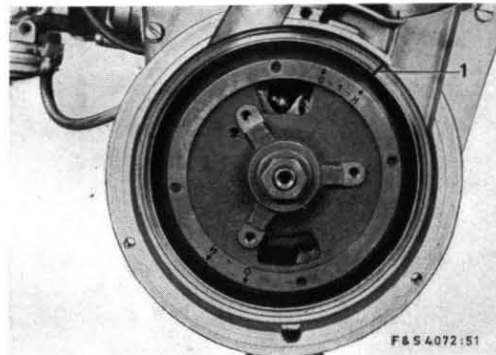

Fig. 43
"O" coincides with the marking (1, Fig. 43) on the fan housing when the piston is at top dead center.
1. Provide the fan housing with a mark (1, Fig. 43).
In this position of the magneto flywheel, provide the flanged hub with the TDC mark "O", as shown in Fig. 43.